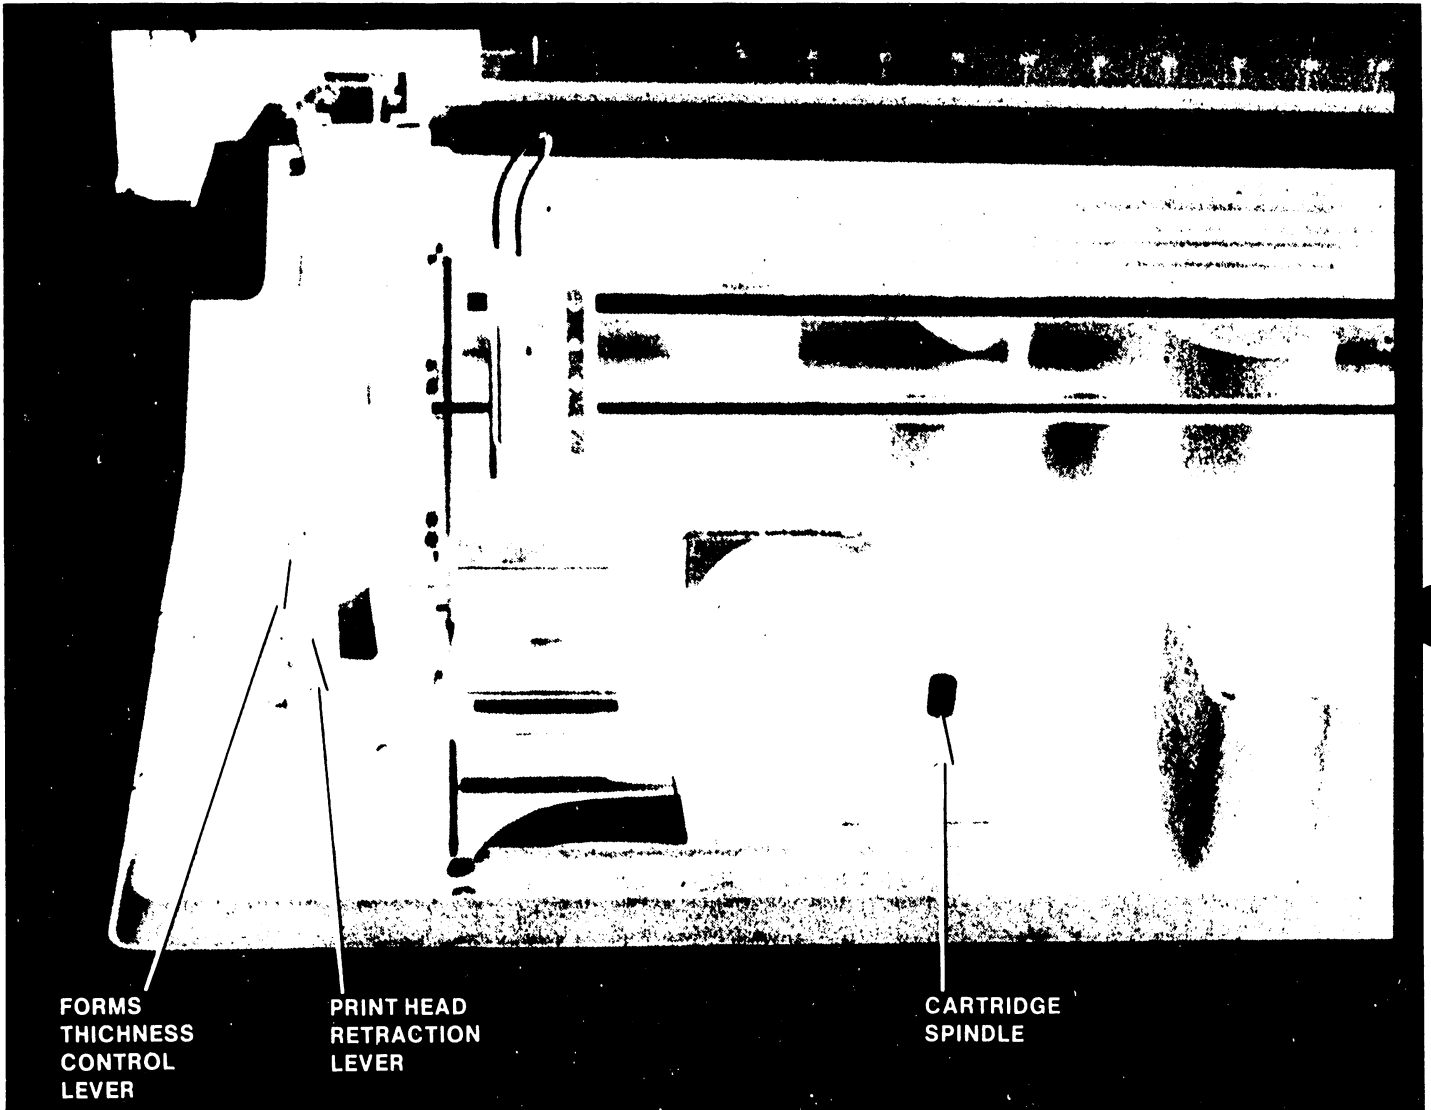

Figure 3-2 Ribbon Cartridge Removal
2. Raise the printer cover. Pull the middle of the cover support bar assembly forward to the locked position as shown in Figure 3-2.
3. Locate the print head retraction lever to the left of the print head carriage (Figure 3-2). Pull this lever toward the front of the printer to move the print head away from the striker bar.
5. Remove the cartridge by pulling the cartridge release toward the front of the printer as shown in Figure 3-2. Lift the cartridge up slightly and remove it from the printer.
7. Lower the cartridge onto the print head carriage so that the ribbon passes in front of the print head ribbon guide. While holding the cartridge in the horizontal position, pull it toward you about 1/4" until the front of the cartridge drops into the brackets refer to Figure 3-2. Push the cartridge down until the carriage release locks the cartridge into position. Insure the cartridge is securely locked and the ribbon drive is engaged by rotating cartridge knob.
3. Locate the forms thickness lever refer to Figure 3-2. Note that the forms thickness lever has nine position notches for variable print adjustments. When the lever is positioned towards the rear of the printer, the print head moves closer to the striker bar. When the lever is positioned toward the front of the printer the distance between the striker bar and the print head increases.